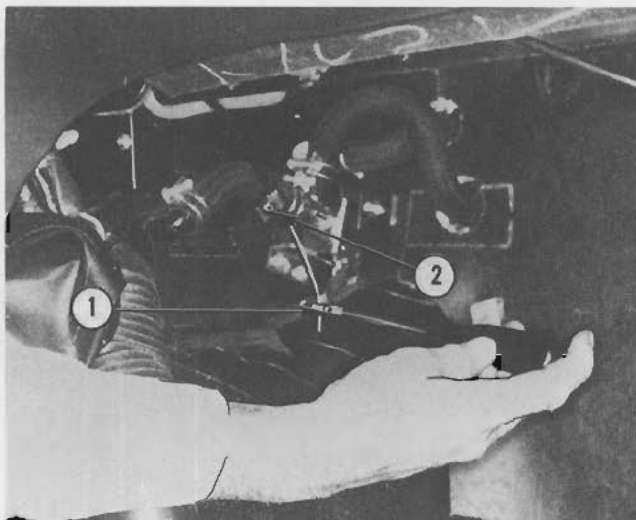

Figure III-7. Heater Control Cable Disconnect (RH)
c. Disconnect the heater temperature control cable at the terminal, Item 1, on the water control valve on the RH side of the heater box (see Figure III-7). Release the cable clamp, Item 2, and free the cable of connections.